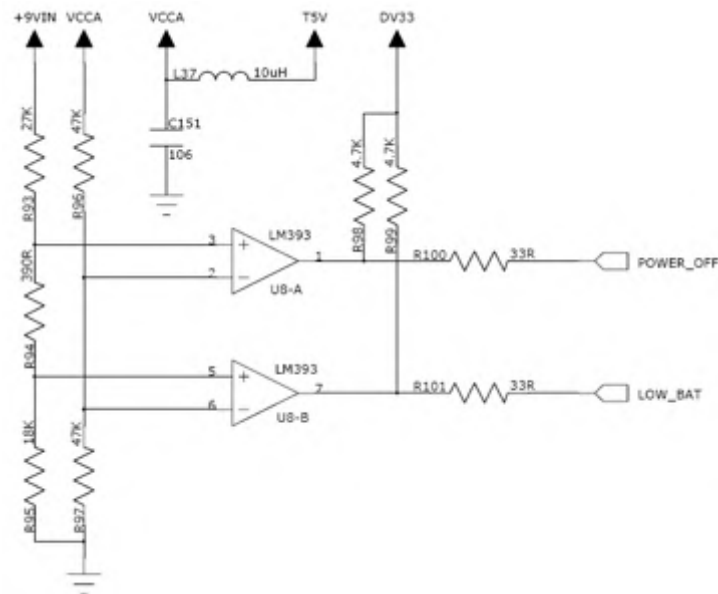

Figure 3.2.6.1 Battery voltage detect circuit diagram
1. Battery voltage detect circuit is shown in the figure 3.2.6.1: